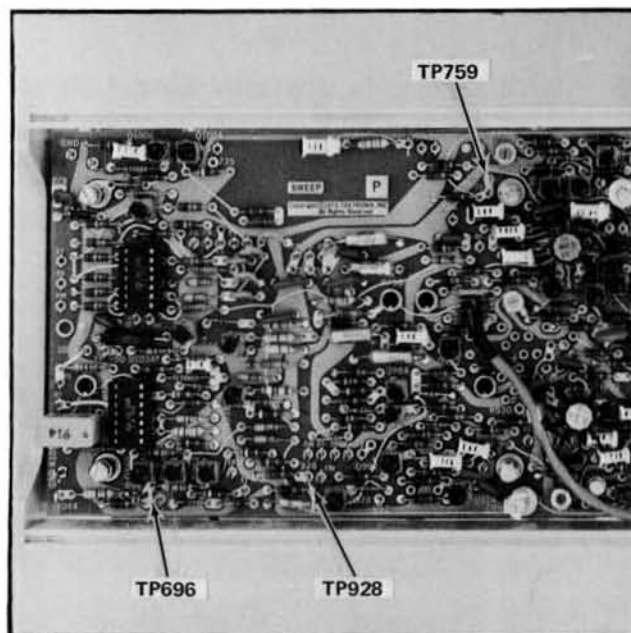

Fig. 5-6. Location of output signals test points (Sweep circuit board).
e. Connect the X10 probe from the test oscilloscope vertical input connector to TP928 (see Fig. 5-6).
a. Remove the 10X probe from TP928 and connect it to TP759 (see Fig. 5-6).
a. Remove the 10X probe from TP759 and connect it to TP696 (see Fig. 5-6).